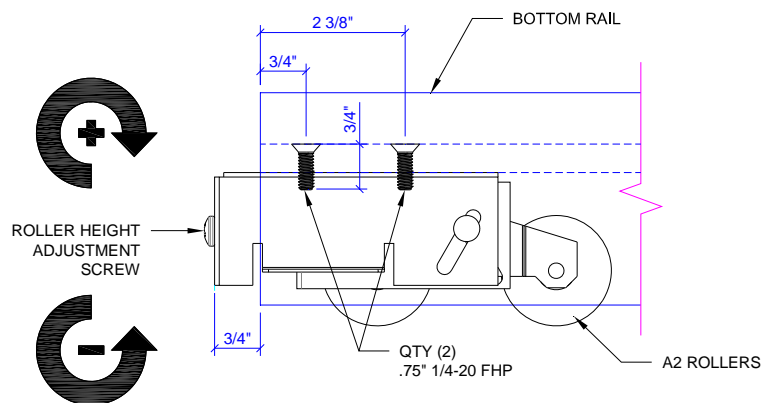

Figure 2:
1. Adjust the roller assemblies (2 required per "X" panel) to the full up right position using the adjustment screw (Figure 2).